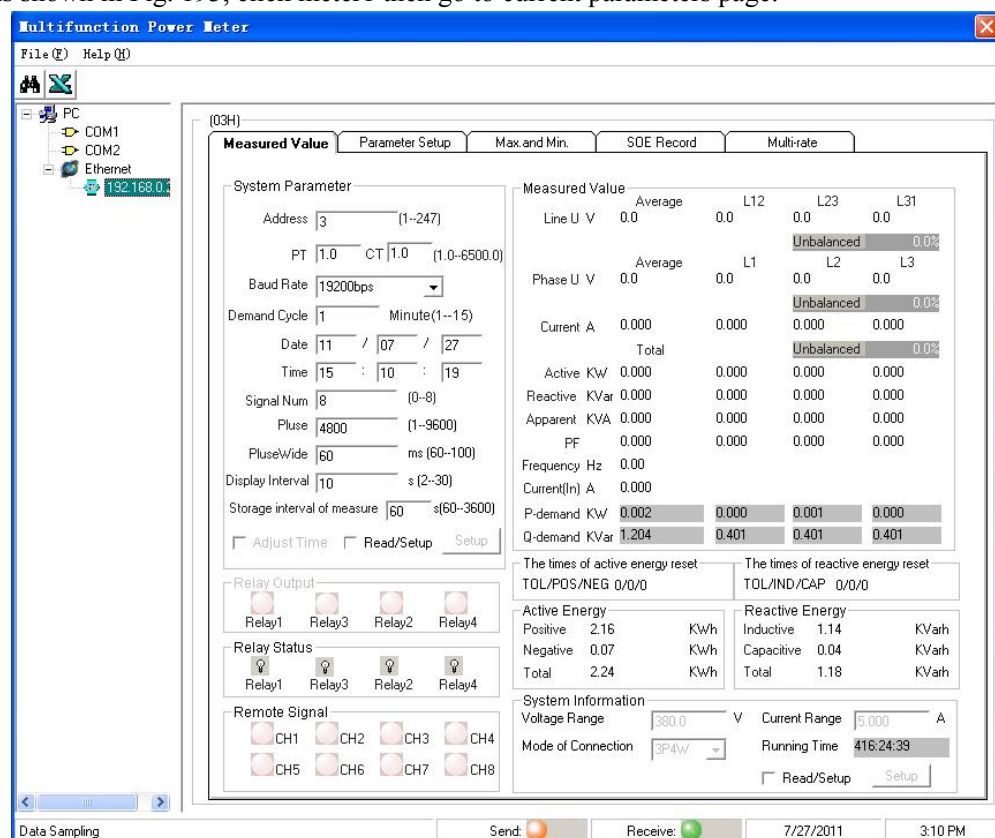

Fig. 193
(4) As shown in Fig. 193, click meter1 then go to current parameters page.